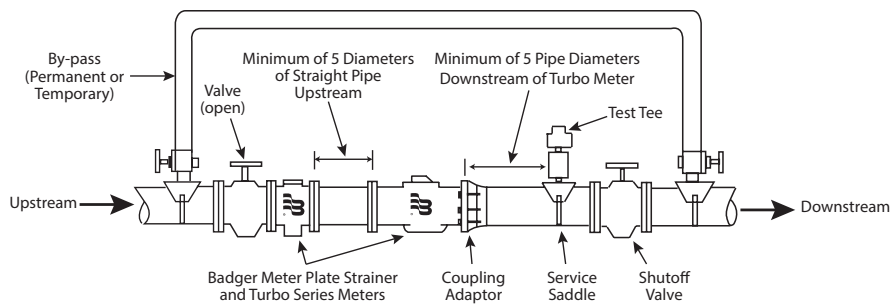

Figure 1: Meter installation
- When installing the meter with a separate plate strainer or integral strainer, a minimum of 5 pipe diameters of straight, unobstructed pipe is recommended upstream of the meter. For optimum protection and accuracy, this straight pipe spool piece should be installed between the separate strainer and meter (see *Figure 1*). A minimum of 10 pipe diameters (minimum of 25 pipe diameters for smallest size) of straight unobstructed pipe is recommended upstream of a meter installed without a plate strainer. The deletion of a strainer, however, is not recommended. This allows for dampening of velocity profile distortions caused by elbows, pumps, and dirt traps upstream of the meter. Where spiral flows are created by three dimensional elbows or rotary pumps, additional distance to dampen the effect is beneficial. If a basket or Y-type strainer is used, place it 5...10 pipe diameters upstream of the meter to dampen velocity profile distortions created by this design.